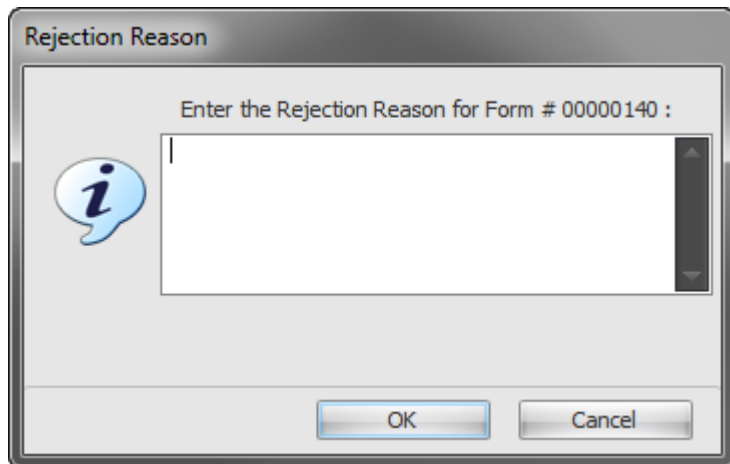

Figure 67. Rejection Reason Dialog Box
2. Click **Yes**. The **Rejection Reason** dialog box opens, as shown in Figure 67.